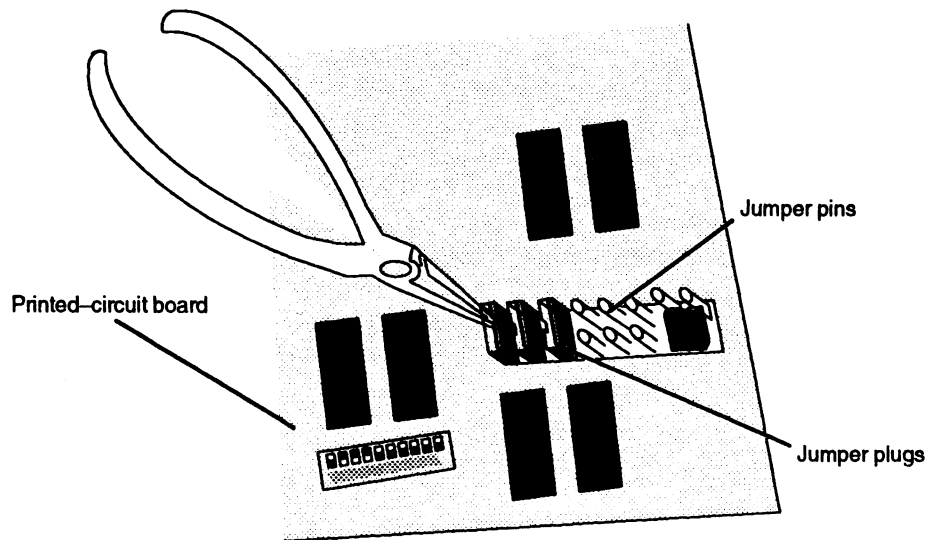

Figure 5-3 Removing or Installing Jumper Plugs
*Jumpers*, or jumper plugs, are small removable plastic posts that contain wire circuit connectors. *Jumper pins* are rows of small metal posts sticking out from the board surface. Figure 5-3 shows a row of jumpered and unjumpered jumper pins.
Figure 5-3 shows how to install and remove jumpers from a typical row of pins.